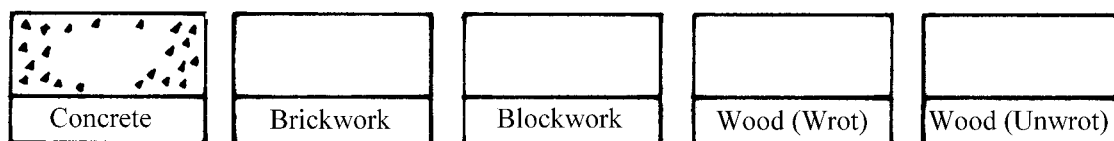

Fig. 2
12. Figure 2 shows the graphical representation of concrete as recommended in BS 1192 Building Drawing Practice. Complete the boxes for the remaining materials.